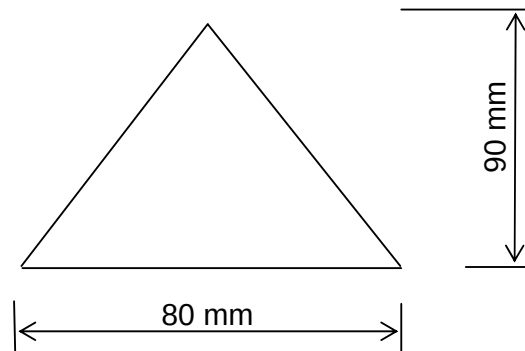

FIGURE 5.3
5.3 FIGURE 5.3 shows the lamina of a pyramid.